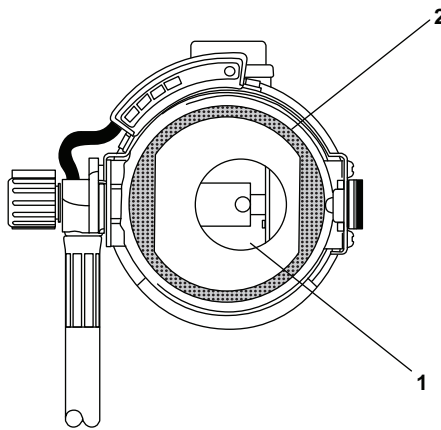

Figure 6-24. Mask-Mounted Regulator (Reverse Side)
- (1) Bleed the system IAW paragraph 6.5.1.
- (2) Remove mask-mounted regulator from the regulator holder.
- (3) Cover the mask-mounted regulator outlet (figure 6-24, item 1) with masking tape.
- (4) Without using tools, remove the respirator gasket (figure 6-24, item 2) from around the mask-mounted regulator outlet (figure 6-24, item 1).
- (5) Carefully remove any remaining portions of the respirator gasket (figure 6-24, item 2) with a plastic scraper.
- (1) Ensure that the replacement respirator gasket (figure 6-24, item 2) is free of cuts, nicks, or other damage. Replace as required.
- (2) Position the mask-mounted regulator outlet (figure 6-24, item 1) facing up.
- (3) With the peel-away paper facing the mask-mounted regulator outlet (figure 6-24, item 1), gently stretch the respirator gasket (figure 6-24, item 2) over the mask-mounted regulator outlet.
- (4) Fold back the respirator gasket (figure 6-24, item 2) and remove one-half of the peel-away paper.
- (5) Press the portion of the respirator gasket (figure 6-24, item 2) with the exposed adhesive into place around the mask-mounted regulator outlet (figure 6-24, item 1).
- (6) Perform steps c.(4) and c.(5) for the remaining half of the respirator gasket (figure 6-24, item 2).
- (7) Remove the masking tape covering the mask-mounted regulator outlet (figure 6-24, item 1).